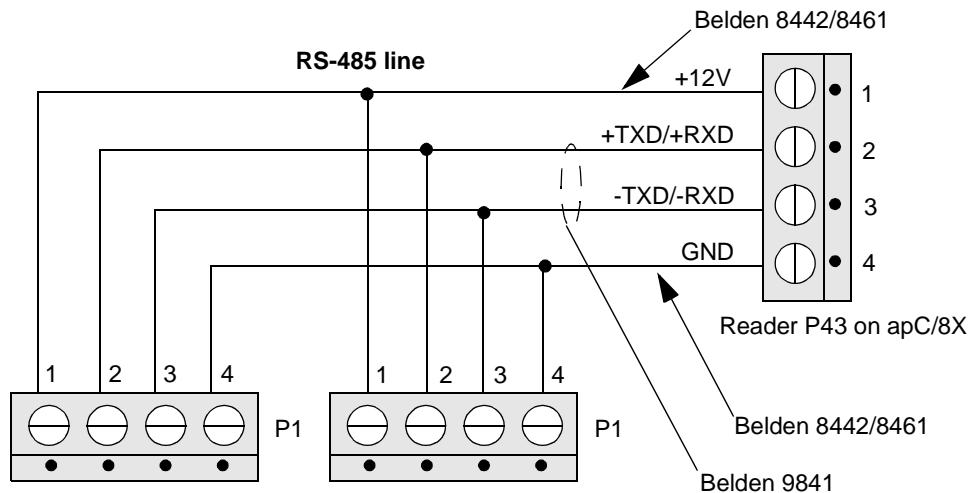
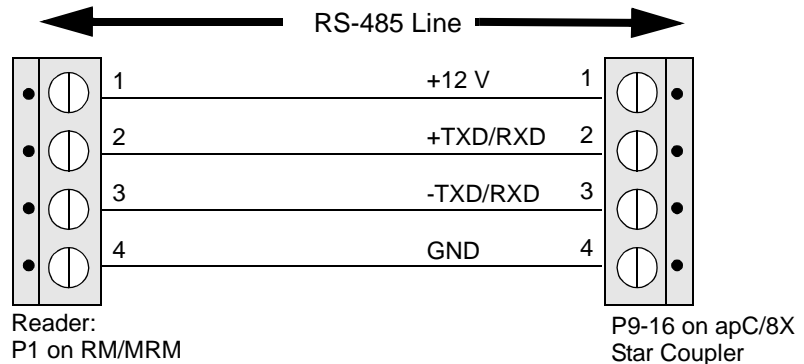

Figure 4.7 Connecting Devices to the apC/8X in a Multidrop Configuration
Figure 4.8 Connecting Devices to apC/8X Star Coupler in a Star Configuration
2. Connect the remaining pins in sequence. Figure 4.7 shows the connections for a multidrop line configuration.
Figure 4.8 indicates the pin and contact numbers for connecting readers in a star configuration.
Note All strike relays **MUST** have a diode or MOV connected as described in this section. Figure 4.7 shows the diode used for a DC door strike, and Figure 4.8 shows the MOV used for an AC door strike. **Do not exceed the contact ratings of the relay!**